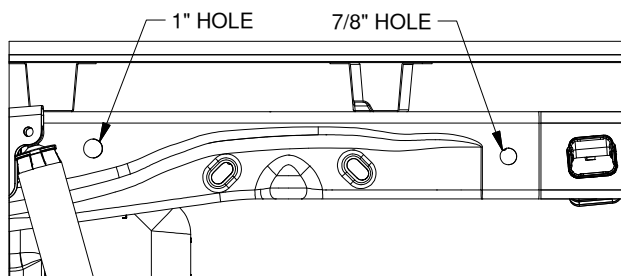
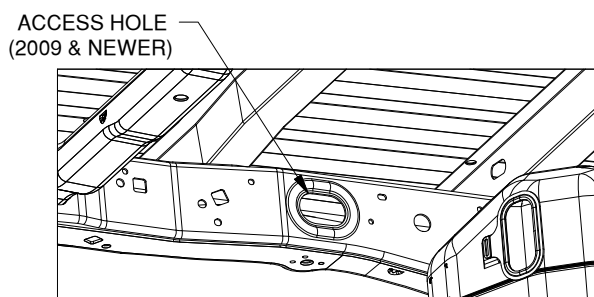

Figure C1: View looking into driver side wheel well.
Figure C2: View looking at inside of driver side frame.
- 1. Prepare for hardware installation.** Locate two 1/2" X 1-1/2" carriage bolts, locking straps, and fish wires. On the driver side of the frame identify the 1" hole and the 7/8" hole where the hardware will mount, see Figure C1. Locate the access hole on the inside of the frame, see Figure C2. (Trucks older than 2009 will use the hole where the axle bumper was removed.)